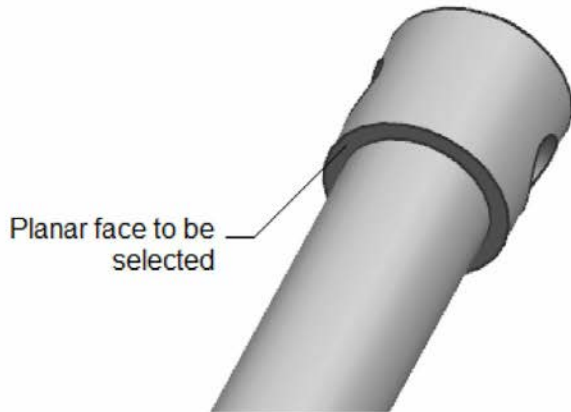
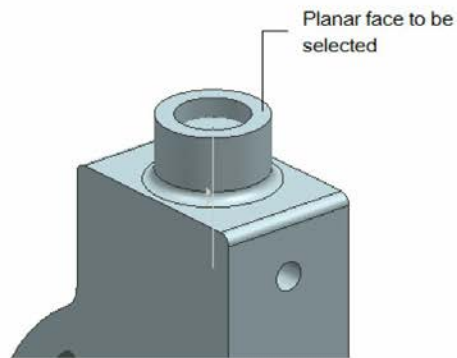

Figure 8-54 Planar face to be selected from the Screw
Figure 8-55 Planar face to be selected from the Base
7. Select the planar face of the Screw, refer to Figure 8-54. Next, select the planar face of the Base component, refer to Figure 8-55.